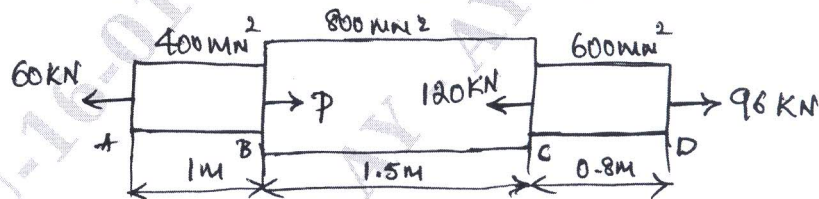

Fig.Q1(b)
- b. A steel bar ABCD of varying sections is subjected to the axial forces as shown in Fig.Q1(b). Find the value of 'P' necessary for equilibrium. If $E = 210 \text{ kN/mm}^2$, determine: